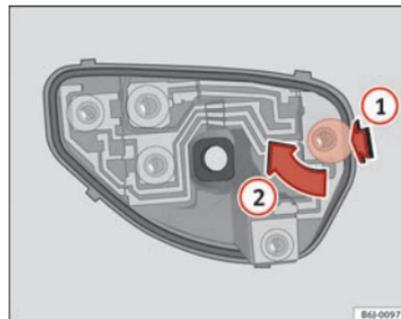

Fig. 163 Changing bulbs on tail lights
- When the bulb holder has been removed, press in the direction of the arrow ① and at the same time, turn in the direction of the arrow ② ⇒ fig. 163.